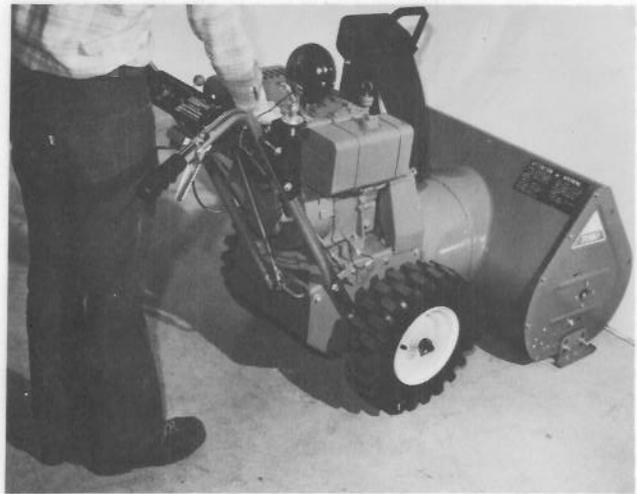

Figure 20
2. Start the engine, engage the wheel clutches and shift to any forward gear. Slowly run the unit against something solid (a wall or post) (Fig. 20). Return the shift lever to neutral; the wheels should stop driving. If they don't, turn the key to off. Turn the U-shaped bracket upward 1/2 turn. Repeat if necessary. Refer to Check Gear Shift Adjustment, page 7.